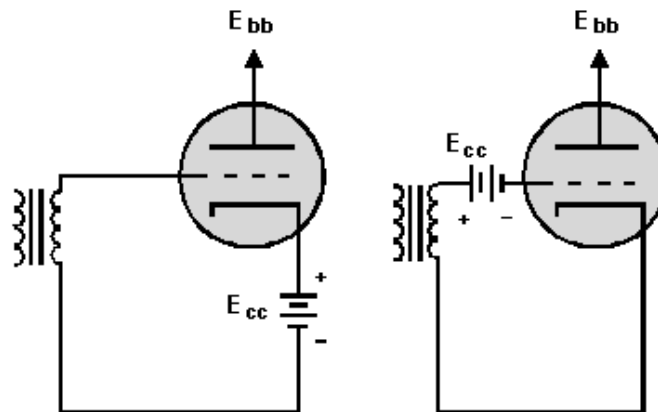
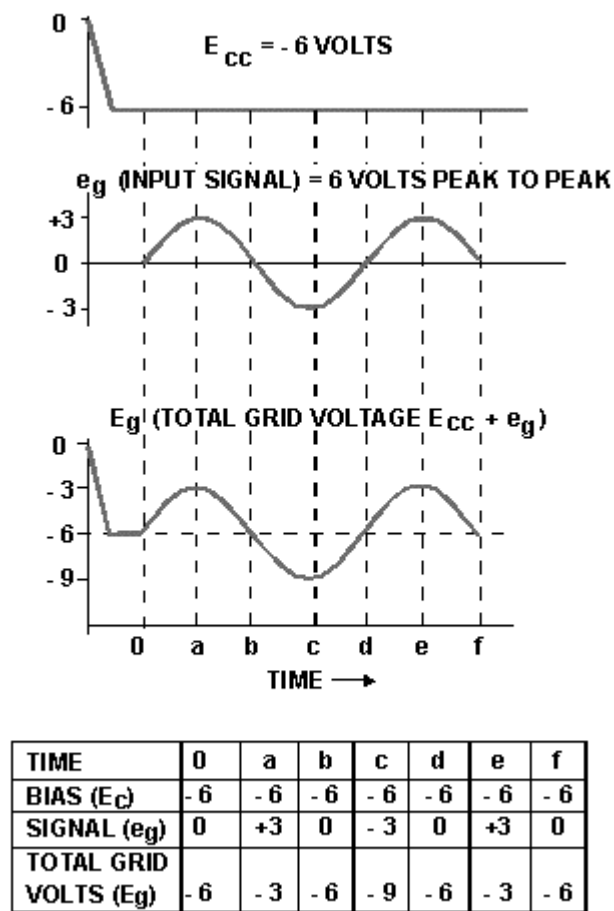

Figure 1-17.—Basic biasing of a triode.
Figure 1-18.—Typical grid waveforms.
**GRID BIAS** is a steady, direct voltage that is placed at some point in the external circuit between the grid and the cathode. It may be in the cathode leg or the grid leg as shown in figure 1-17. It is always in series with the input signal voltage. In each of the circuits in figure 1-17,  $E_{cc}$  makes the grid negative with respect to the cathode because of the negative terminal being connected toward the grid and the positive terminal being connected toward the cathode. With identical components, each circuit would provide the same bias.
Let's assume that the bias voltage in figure 1-17 is -6 volts. Let's also assume that the peak-to-peak signal voltage from the transformer is 6 volts. Each of these voltage waveforms is shown in figure 1-18. From past experience you know that voltages in series **ADD**. Figure 1-18 has a table of the instantaneous values of the two voltages added together. The waveforms are drawn from these values.